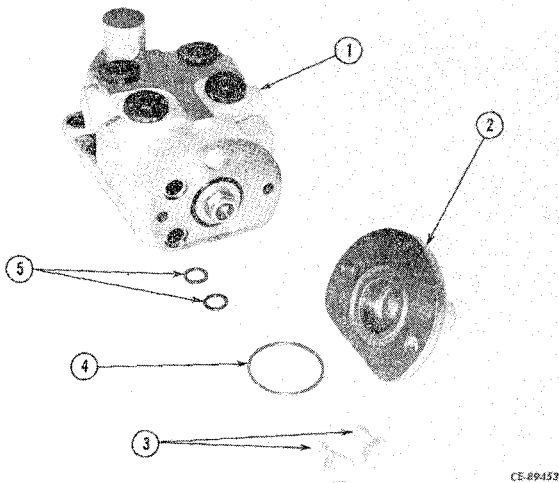

Figure 8-13
Remove cap screws (3, Fig. 8-13) and end cover (2) from housing (1). Remove large "O" ring (4) from groove in cover, and 2 small "O" rings (5) from housing. Discard "O" rings.